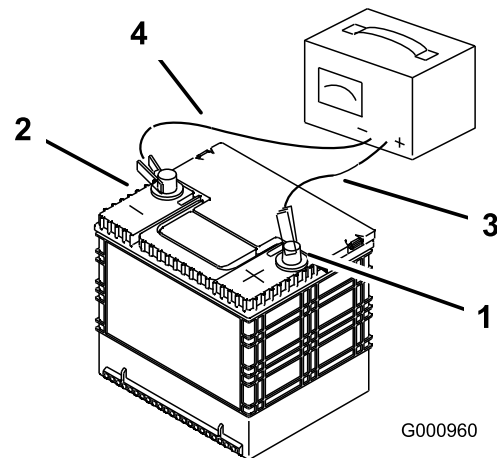

Figure 42
2. When the battery is fully charged, unplug the charger from the electrical outlet, then disconnect the charger leads from the battery posts (Figure 42).